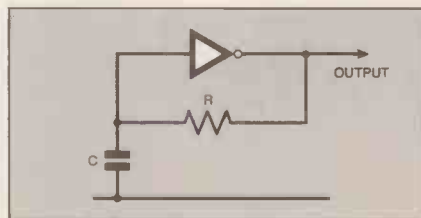

Fig. 1. Simplified RC oscillator.
The circuit diagram in Fig.1 shows how an oscillator can be made from three building blocks: an inverter, resistor R and capacitor C. The approximate time (T) for one wavelength of such an oscillator is given by the formula $T = 1.1CR$. In other words if R is kept constant, T and C are directly proportional: the period of one wavelength is doubled if C is doubled, halved if C is halved, and so on.